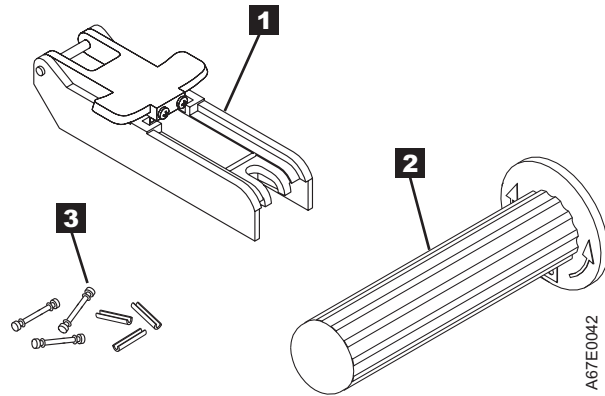

Figure 153. Leader Pin Reattachment Kit
- **Leader pin attach tool** (see **1** in Figure 153 on page 174). A plastic brace that holds the cartridge door open.
- **Cartridge manual rewind tool** (see **2** in Figure 153 on page 174). A device that fits into the cartridge's hub and lets you wind the tape into and out of the cartridge.
- **Pin supplies** (see **3** in Figure 153 on page 174). Leader pins and C-clips.